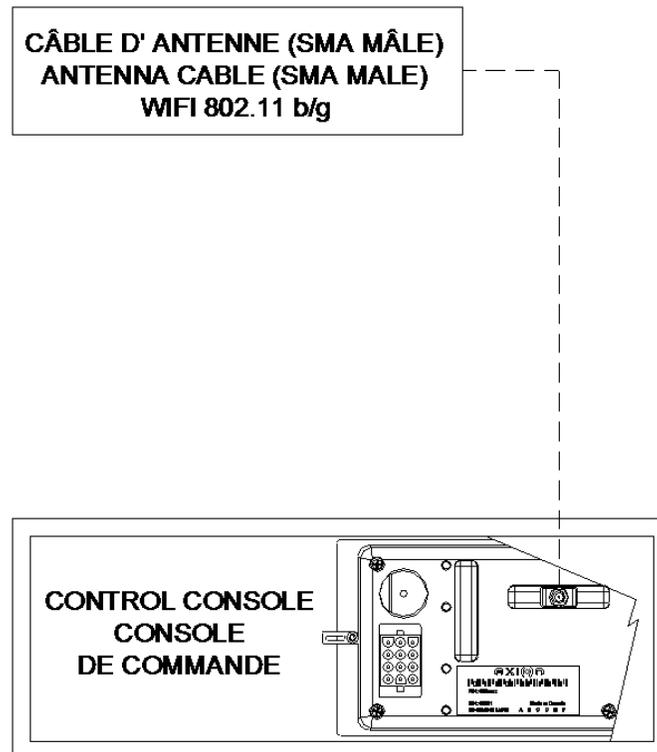

Figure 6: Wi-Fi Module - Antenna Cable Connection
- Connect the yield signal switch wire to the bus yield switch. (See Figure 6).